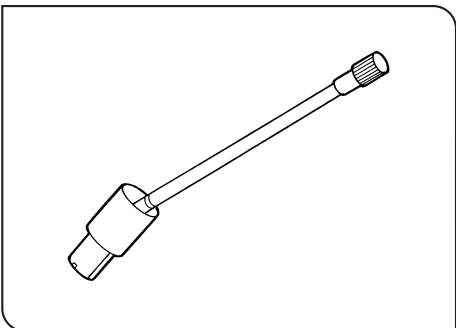

Fig. 2
6 Centering the Mercury Burner (Figs. 2 to 6)
- ⓓ If the collector lens focusing knob of the lamp housing is hard to access due to the location behind the microscope, insert the U-CLA extension handle (optional) shown on the left into the knob. (Fig. 2)
- ⓔ Set the main switch of the power supply unit for the lamp housing for mercury burner to " I " (ON) and wait until the illumination light stops flickering and its brightness is stabilized.